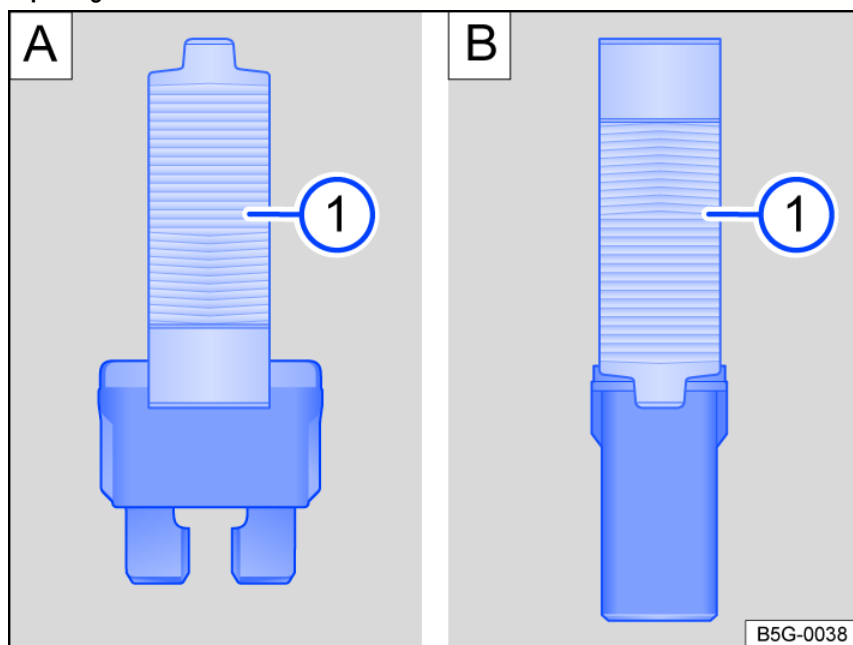

Fig. 159 Remove or install a fuse with the plastic pliers (general example).
① Plastic pliers.
1. Remove plastic tongs from either the fuse box or the cover of the fuse box *fig. 159* ①.
2. Depending on the design of the fuse, slide the appropriately sized clamp on the plastic pliers onto the fuse from above or from the side *fig. 159*.
4. If a fuse is blown, replace with a fuse with the same rating (same color and same label) and the same size ⇒ ①.